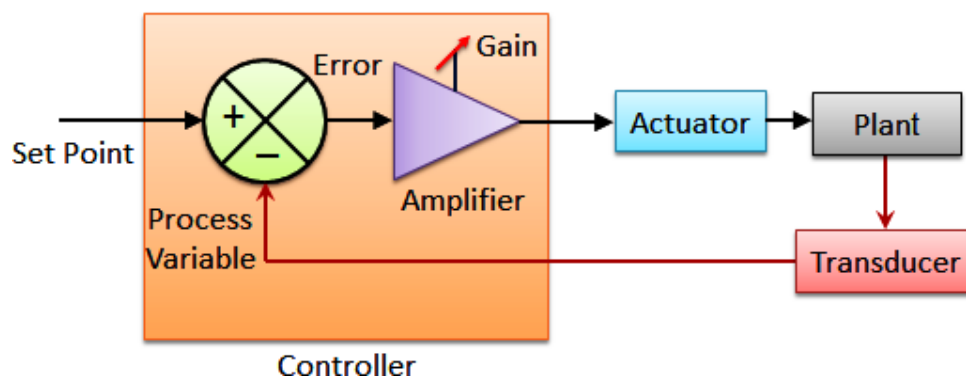

Fig. 6.5.4 Proportional only controller
- Proportional only (P) controller
- Proportional-Derivative (PD) controller
- Proportional-Integral (PI) controller
2.1 Proportional only (P) controller
The simplest form of pneumatic controller is proportional only controller. Figure 6.5.4 shows the pneumatic circuit of 'proportional only' controller. The output signal is the product of error signal multiplied by a gain (K).